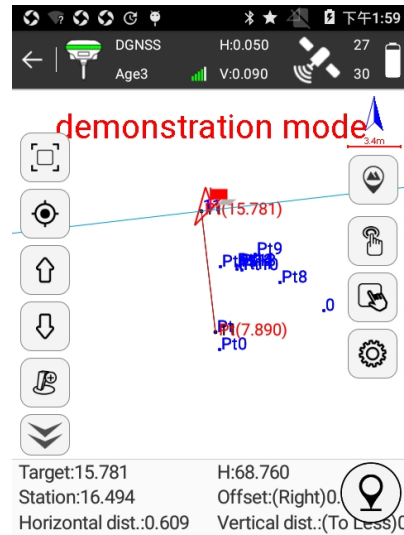

Figure 5.15-2
(3) Measure cross section of mileage at current point according to line mileage, line offset, horizontal distance and vertical distance in bottom status.
(4) Press  to collect data at current coordinate, that is, cross section.
(5) Press  to connect end point and current point of stakeout line as shown in Figure 5.15-2. Press Stake Existing Lines and it can view parameters of connection line.
(6) Move current point and repeat step 4 and 5 until complete all existing line stakeout.
(7) The adjacent center points can be switched automatically by  and  keys to measure cross section.